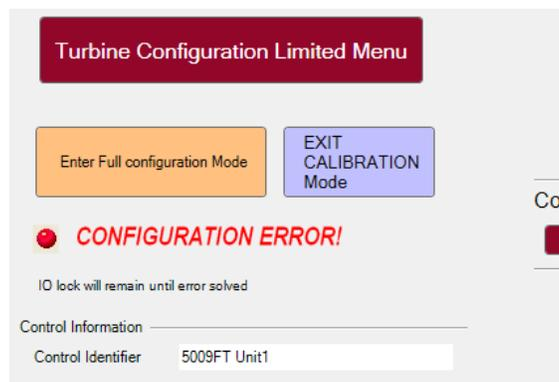

Figure 3-2. Navigation button to Full Configure Mode
3. Click the Enter Full Configuration Mode button that now appears (Fig 3.2)